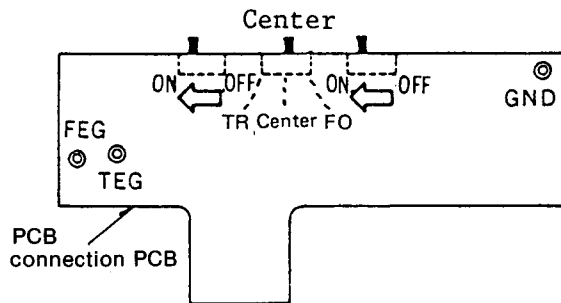

Fig. 2-3
(4) Electrical Adjustment
- ① Position the switches of the PCB connection cord as illustrated in Fig. 2-3.